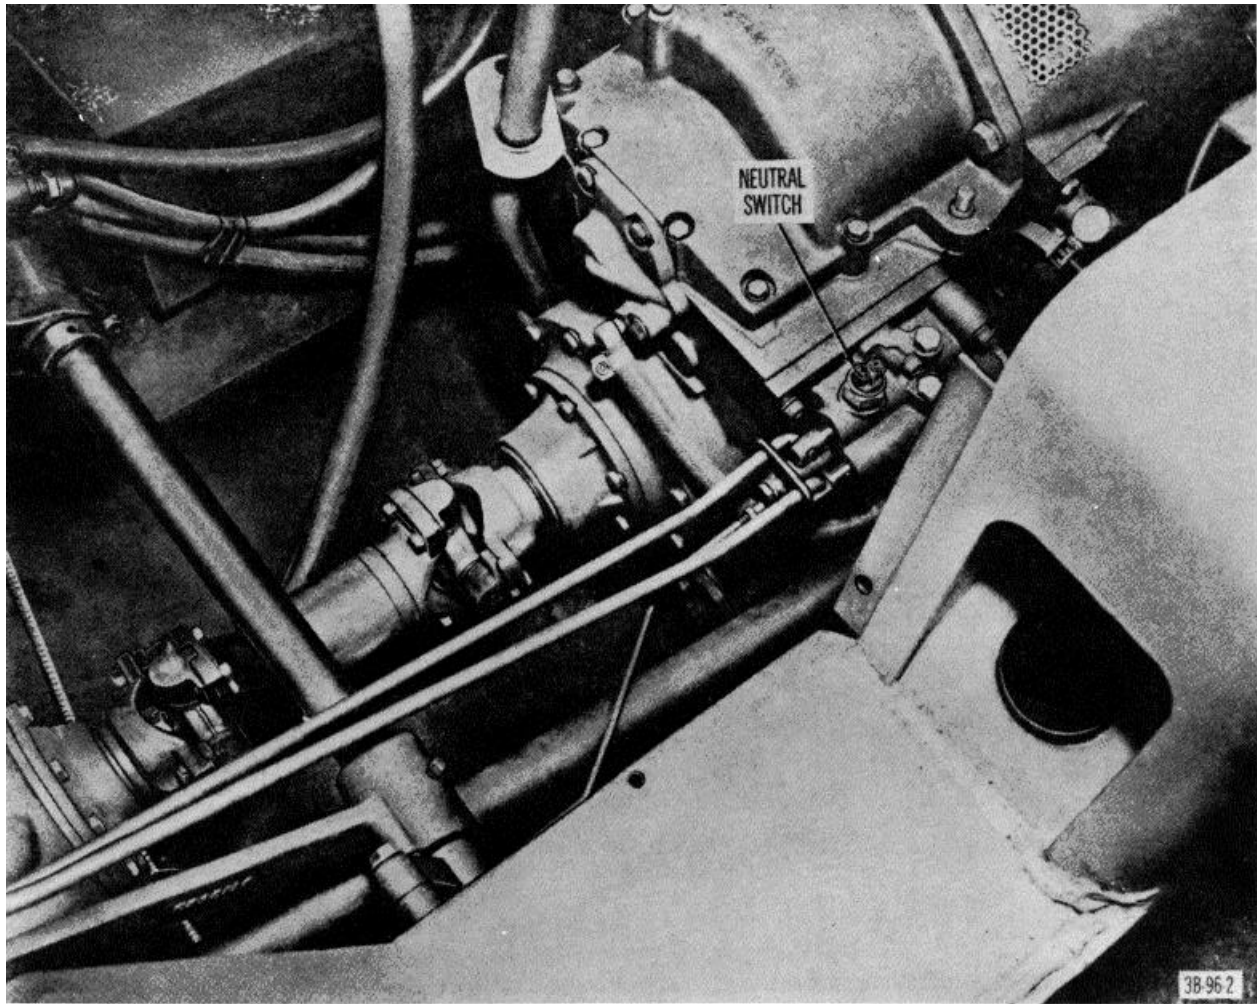

Figure 2. Transmission control valve and linkage.
- (11) Disconnect the choke cable at the carburetor.
- (12) Disconnect the accelerator linkage at the carburetor. Disconnect fuel tank to-fuel pump line at fuel pump.
- (13) Disconnect and tag battery lead wire at voltage regulator.
- (14) Disconnect and tag wire at temperature sending unit.
- (15) Disconnect and tag wire at oil pressure transmitter.
- (16) Disconnect and tag hour meter wire at hour meter pressure switch.
- (17) Disconnect and tag wire at coil.
- (18) Disconnect and tag two wires at starting motor solenoid switch.
- (19) Remove clip that secures the wiring harness to the starting motor.
- (20) Remove clips that secure the wiring harness at two places on the transmission housing.
- (21) Disconnect and tag neutral switch wires at transmission control valve (fig. 2).
- (22) Disconnect and tag wires at transmission temperature warning switch.
- (23) Remove capscrews and lockwashers that secure muffler to exhaust elbow.
Disconnect transmission linkage at the control valve (fig. 2).